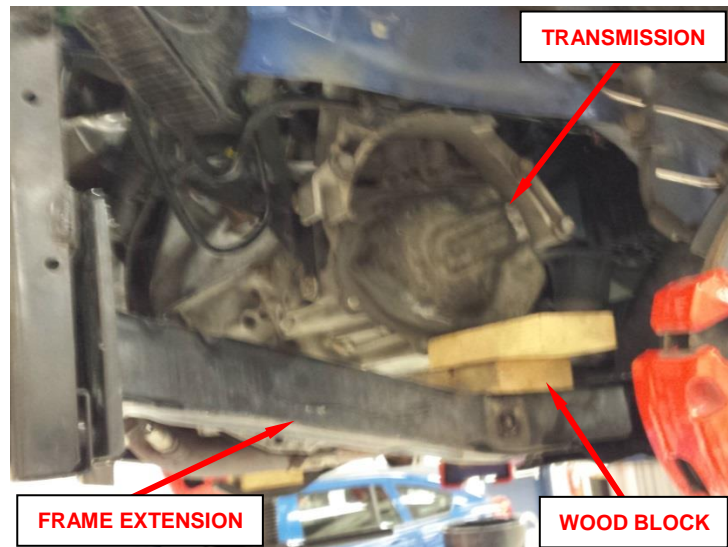

Figure 43 – Support Transmission
42. Support the transmission with wood block(s) placed between the transmission and frame extension to prepare for left transmission mount bolt removal (Figure 43).